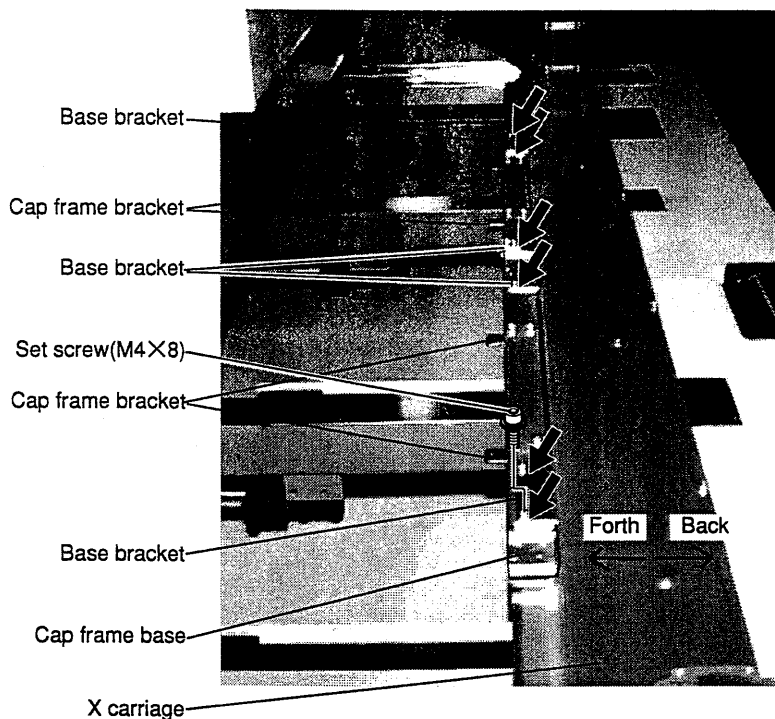

Fig. 1
2. Move X carriage to a position similar to Fig. 1.
3. Fix cap frame base under base bracket of X carriage with set screw as shown in Fig. 1.